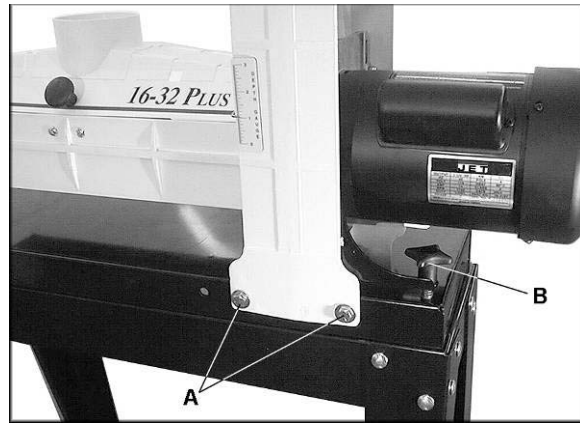

Figure 27
3. If a ridge is visible where the drum overlaps, loosen the four screws at front and rear (A, Figure 27 shows the front screws) and raise the outboard end of drum by turning the fine tune adjustment knob (B, Figure 27) slightly clockwise. Re-tighten the four screws.
NOTE: Keep track of how many revolutions of the fine tune knob are needed to change drum alignment for wider (over 16") sanding. When sanding narrow stock (less than 16") loosen the four screws (A, Figure 27) and turn the fine tune adjustment knob counterclockwise the same amount as for the initial wide sanding, until the drum is again parallel.
Important: Only turn fine tune adjustment knob when all four screws (A, Figure 27) are loose.